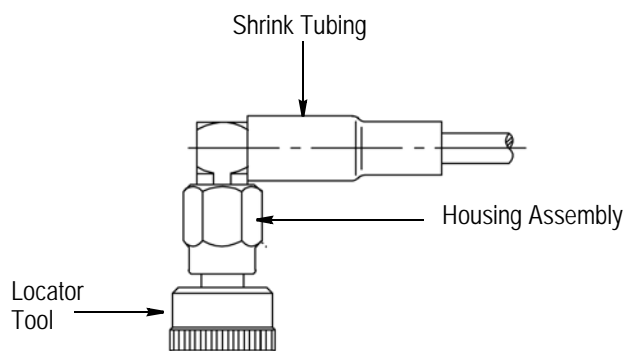

Figure 5
9. Slide the shrink tubing over the outer sleeve until it is against the housing assembly. Using a thermo gun, apply indirect heat to secure the shrink tubing. See Figure 5. Remove the assembly from the locator tool.